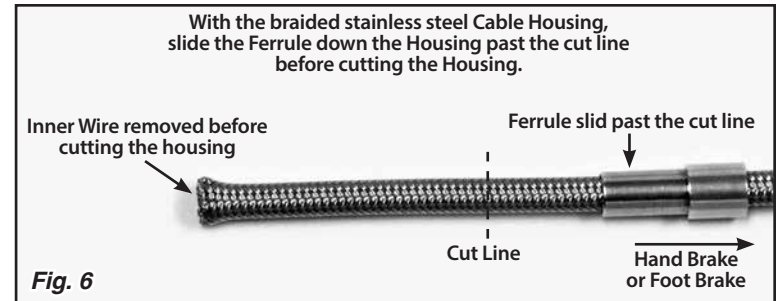

Fig. 6
Step 6: It will be necessary to shorten the new connector cable housing. **Make sure that the inner wire is removed from the cable housing.** Mark the cable housing where it lines up with the cable adjuster. If the cable housing is braided stainless steel, slide the ferrule up the housing towards the dash, away from the end that is being cut. **DO NOT remove the ferrule if the cable housing is braided stainless steel!** Fig. 6